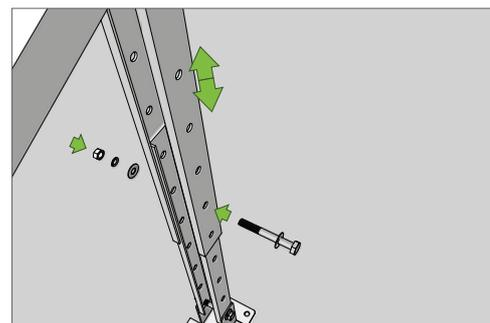

Fig 2
3. Adjust stand angle to desired position by lifting the back of the side section causing the back leg section to telescope. Once at the desired angle and the bolt holes align, fix into position using the supplied bolt, washers and nut as shown in Fig 2